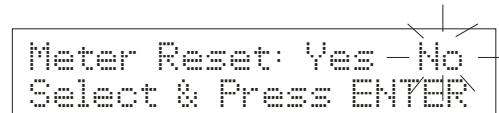

Figure 185
4. Press  $>/CAL$  key to toggle between **Meter Reset Yes** and **No**. The selection will flash. See **Figure 185**.